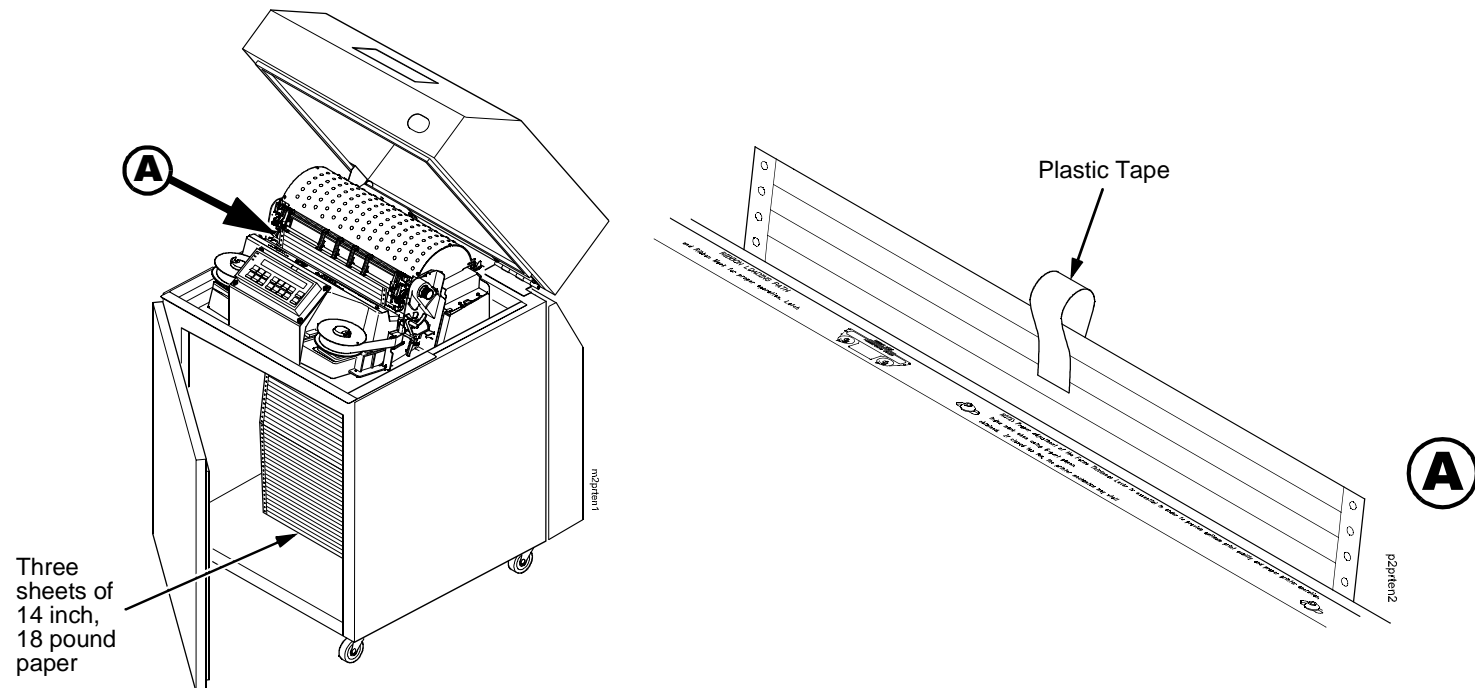

Figure 40. This figure shows how to prepare paper for measuring dynamic paper tension.
4. Prepare a length of 14 inch wide paper consisting of three sheets that are still attached at the perforations. (The paper must be single part, 18 lb maximum weight, 0.0036 inch maximum thickness.) Open the cabinet front door and feed the paper up through the print station until the first page clears the ribbon mask by about one inch. (See Figure 40.)
5. Fold a two-inch piece of plastic tape over the top sheet, mid way between the sides, as shown in Figure 40.